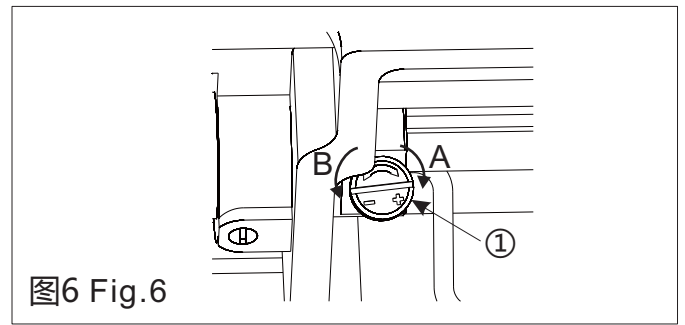
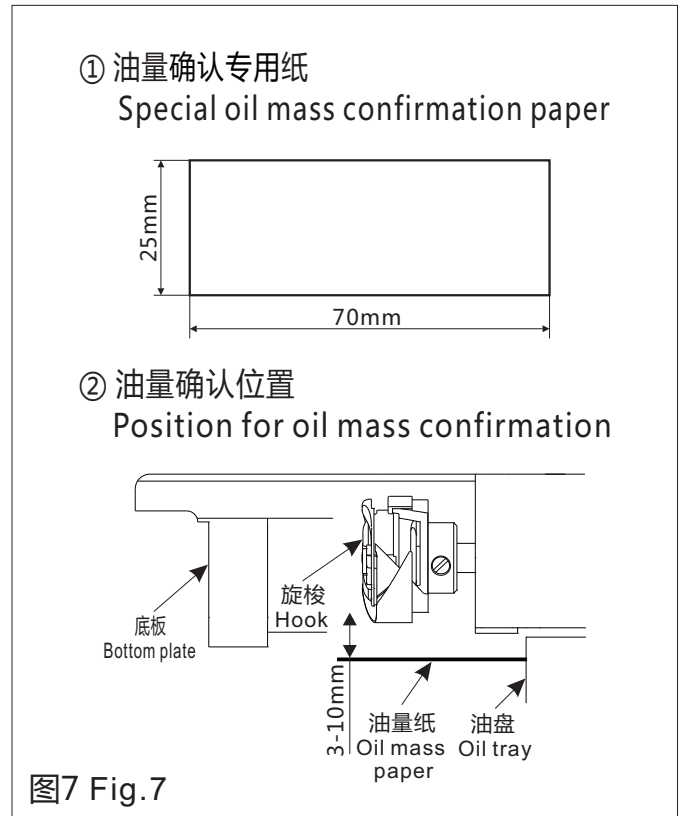
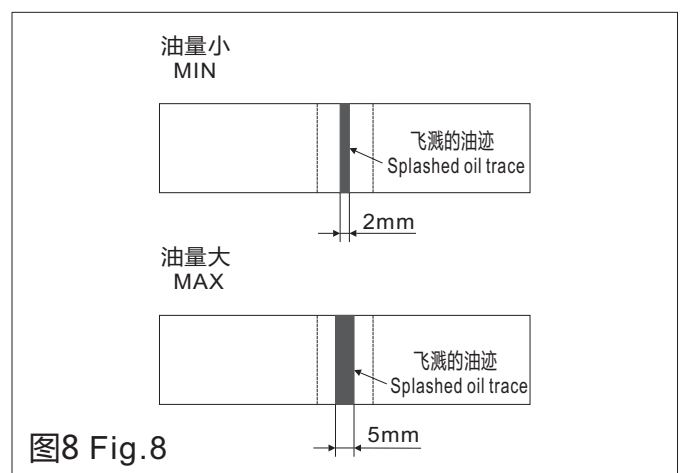

图6 Fig.6
图7 Fig.7
图8 Fig.8
5 旋梭油量调节 (图6、图7、图8) Oil mass Adjustment of Rotating Hook (Fig. 6, Fig. 7, Fig. 8)
2) 请在缝纫机转动时将油量确认专用纸插入(具体操作见图8所示)。
2) Insert the special oil mass confirmation paper when the sewing machine is rotating (detailed operations are described in Fig. 8).
1) 右图标样(见图8)根据不同的缝制工序需求进行增或减的微调整, 但应注意不要增加或减少过多。油量过少时会引起旋梭发热, 油量过多时会污染缝料。
1) The guide sample shown in the right-hand figure (see Fig. 8) may be finely adjusted (increased or reduced) as per different sewing processes; however, excessive increase or reduction shall be avoided. Too little oil mass may lead to rotating hook heating, and overmuch oil mass may lead to contamination of the sewing materials.